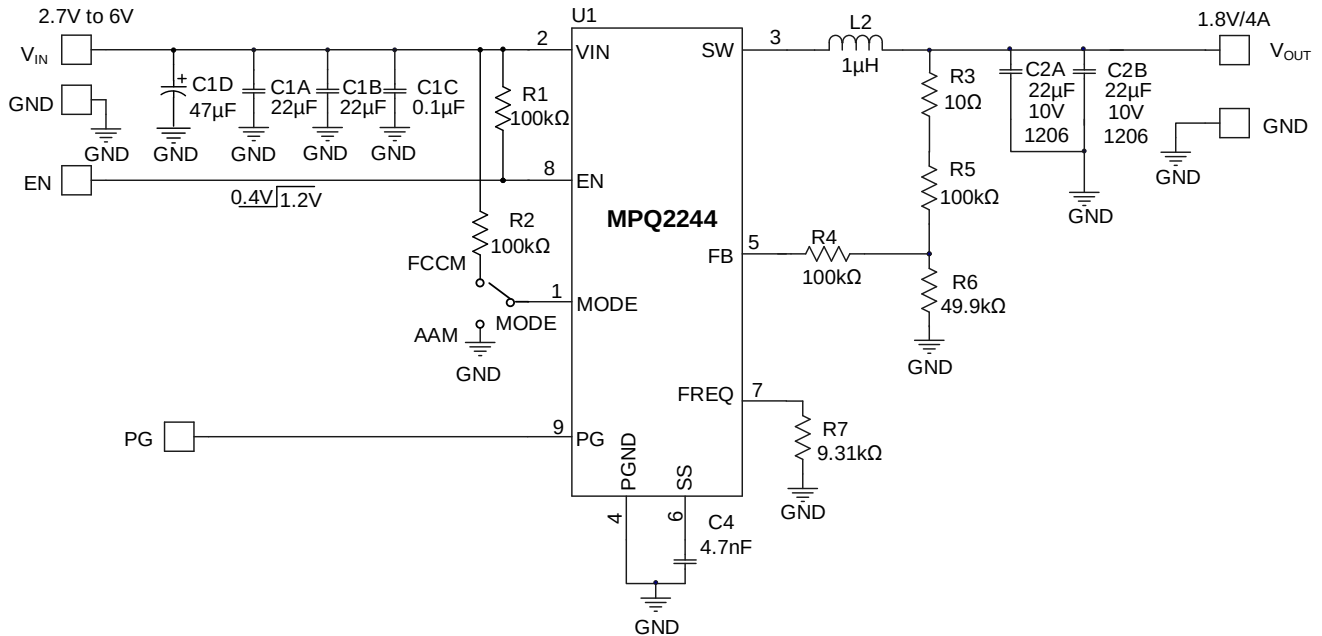

Figure 5: Typical Application Circuit ($V_{OUT} = 1.8V$, $I_{OUT} = 4A$)
- 10) The recommended PCB layout is based on the circuit in Figure 5.